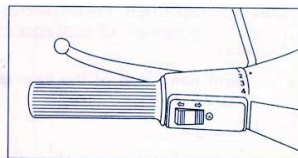

Fig. 22
2.2 Left hand side of the handlebar (Fig. 22).